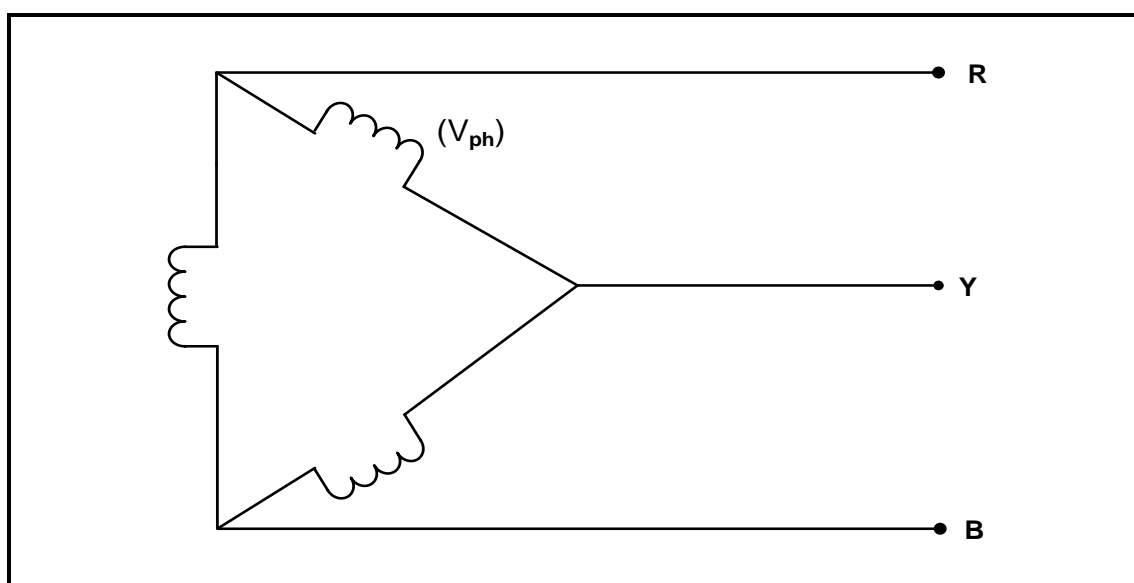

FIGURE 3.3: DIAGRAMMATIC REPRESENTATION OF A THREE-PHASE CONNECTED SYSTEM
3.3 FIGURE 3.3 below is a diagrammatic representation of a three-phase connected system. Answer the questions that follow.
3.3.1 State the relationship between the values of the phase voltage and the line voltage in FIGURE 3.3. (1)
3.3.2 Draw a fully labelled phasor diagram that represents FIGURE 3.3. (3)